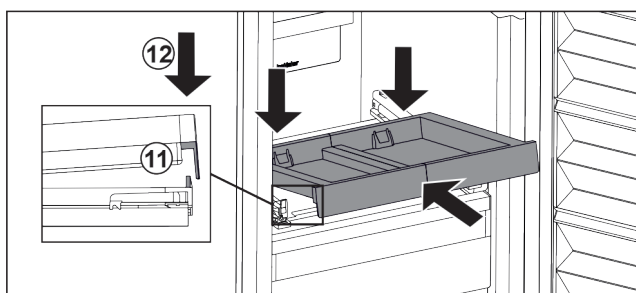

Fig. 104
- Slide in at an angle. Make sure that the stop is behind the lug on both sides. Fig. 104 (11)
- Lower the pull-out board at the front. Fig. 104 (12)